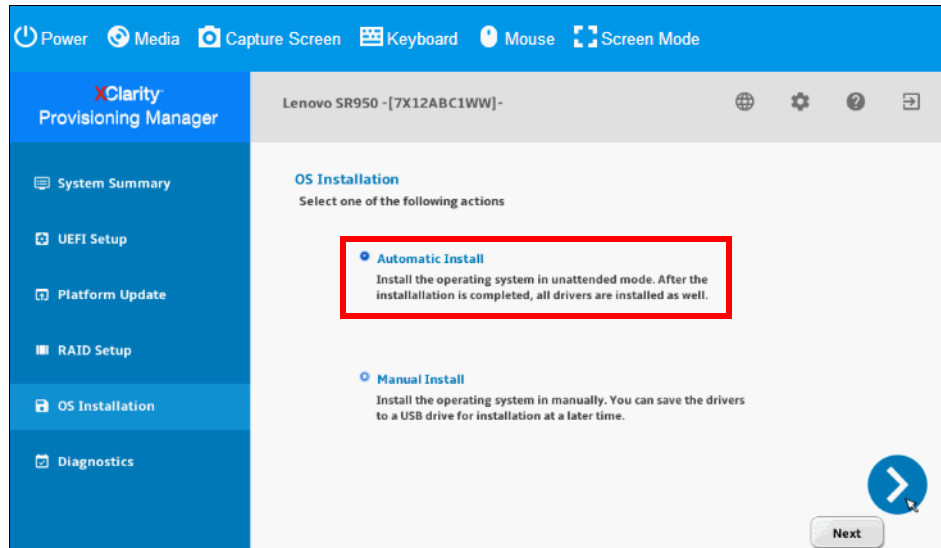

Figure 6-60 Automatic installation selection
5. Select **Automatic Install** as shown in Figure 6-60 on page 217 and click **Next**.